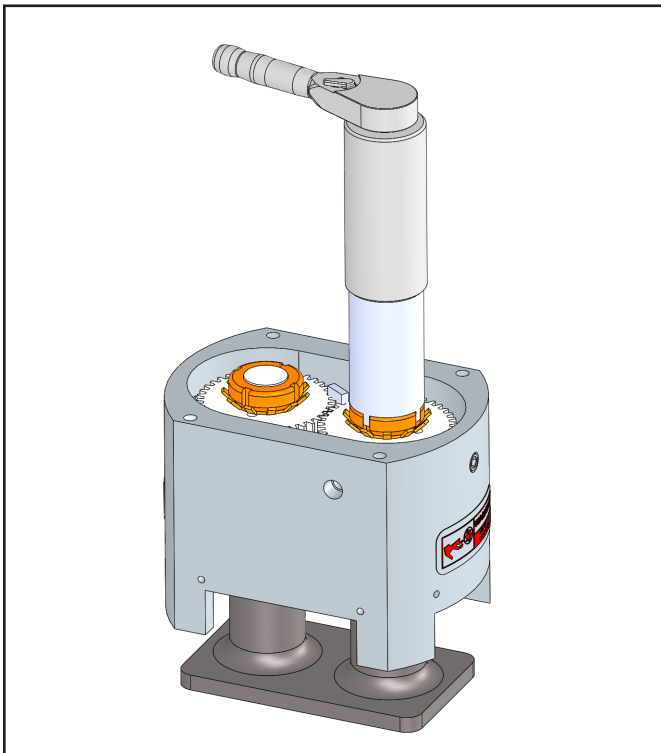

Figure 45.
9. Place a wedge between gear teeth and tighten locknuts (fig.45)